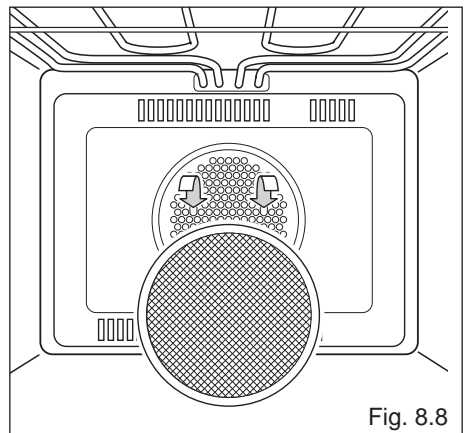

Fig. 8.8
- A special screen is provided at the back of the multifunction main oven to catch grease particles, mainly when meat is being roasted (fig. 8.8).